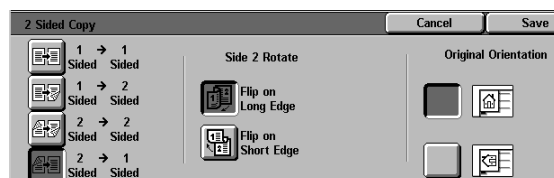

Figure 6: 2 to 1 Sided Copying option
- **2 to 1 Sided** icon for one-sided copies from two-sided originals, as illustrated in Figure 6.